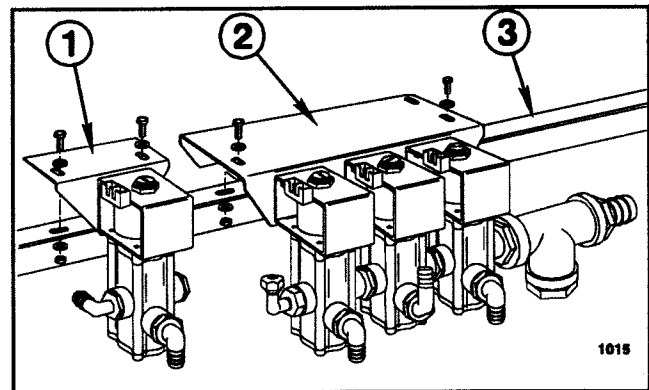

Figure 3
5. Attach the single and triple Solenoid Assemblies to the Solenoid Mounting Bracket with four (4) 5/16" hex head cap screws, flat washers, and hex nuts. (See FIG. 3.)